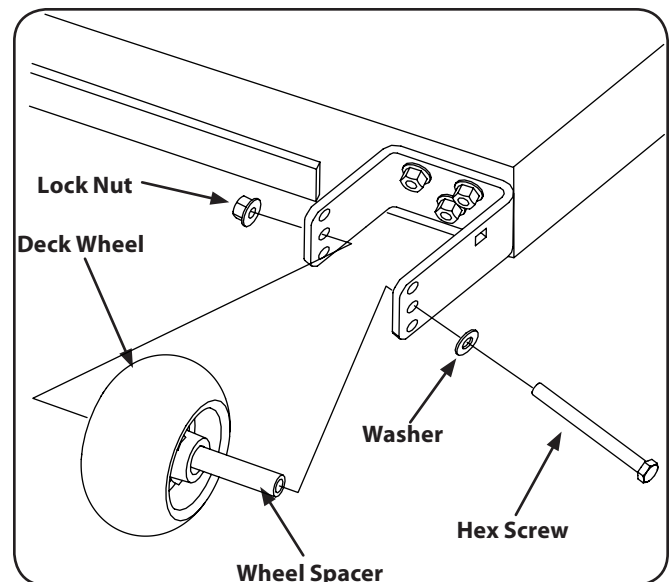

Figure 6-7
To tighten or loosen the tension on the belt, tighten or loosen the jam nuts on the U-rod, see Fig. 6-7, until a ten-pound pull with a spring scale deflects the belt about  $\frac{1}{2}$ ".
2. Remove the lock nut securing one of the front gauge wheel shoulder screws to the deck. Remove the gauge wheel and hex screw. Refer to Fig. 6-7.